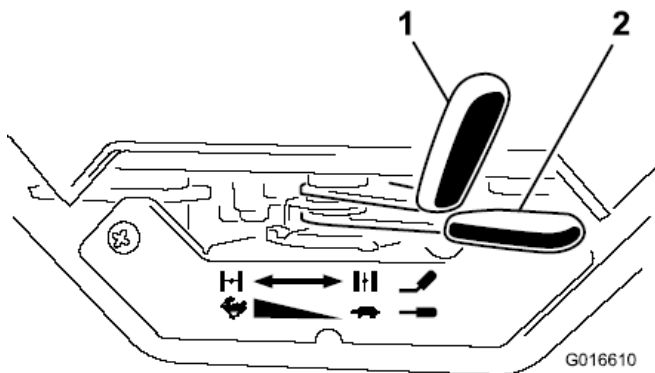

Figure 12
1. Move the choke lever left to the ON position if you are starting a cold engine (Figure 12). A warm or hot engine may not require choking.
2. Move the throttle lever 1/3 way to the FAST position (Figure 12).